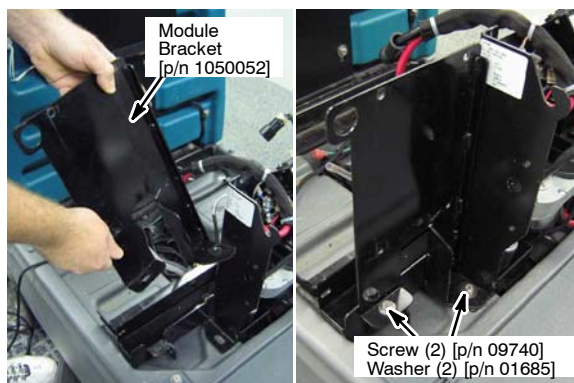

Fig. 33
4. Mount the module bracket [p/n 1050052] using two screws [p/n 09740] and two washers [p/n 01685] as shown (Figure 33).